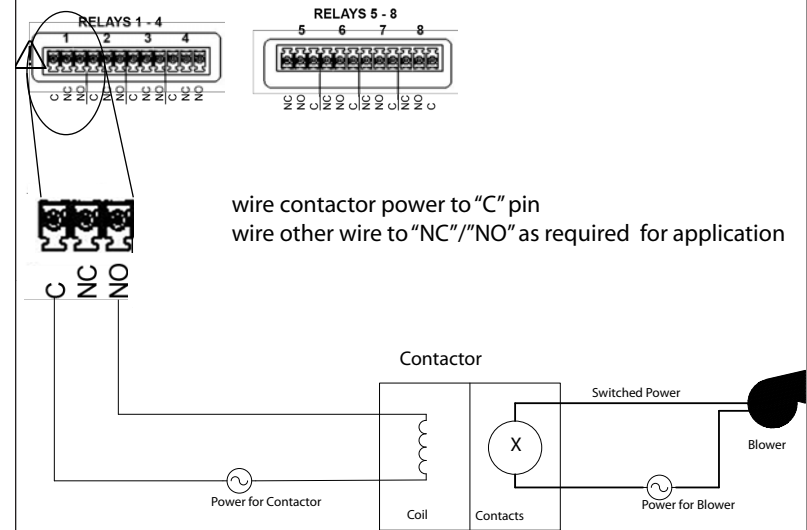

Figure 3.22
**CAUTION:** Do not overload relay(s). Check manufacturer specifications for inductive current/amp at power up. Use a contactor if necessary - figure 3.22.
The eight onboard relays are rated at 240VAC@5AMPS (110VAC@10AMPS) switching capacity. Contactors should be used for devices drawing current loads higher than relay specification. See figure 3.22 for contactor wiring.